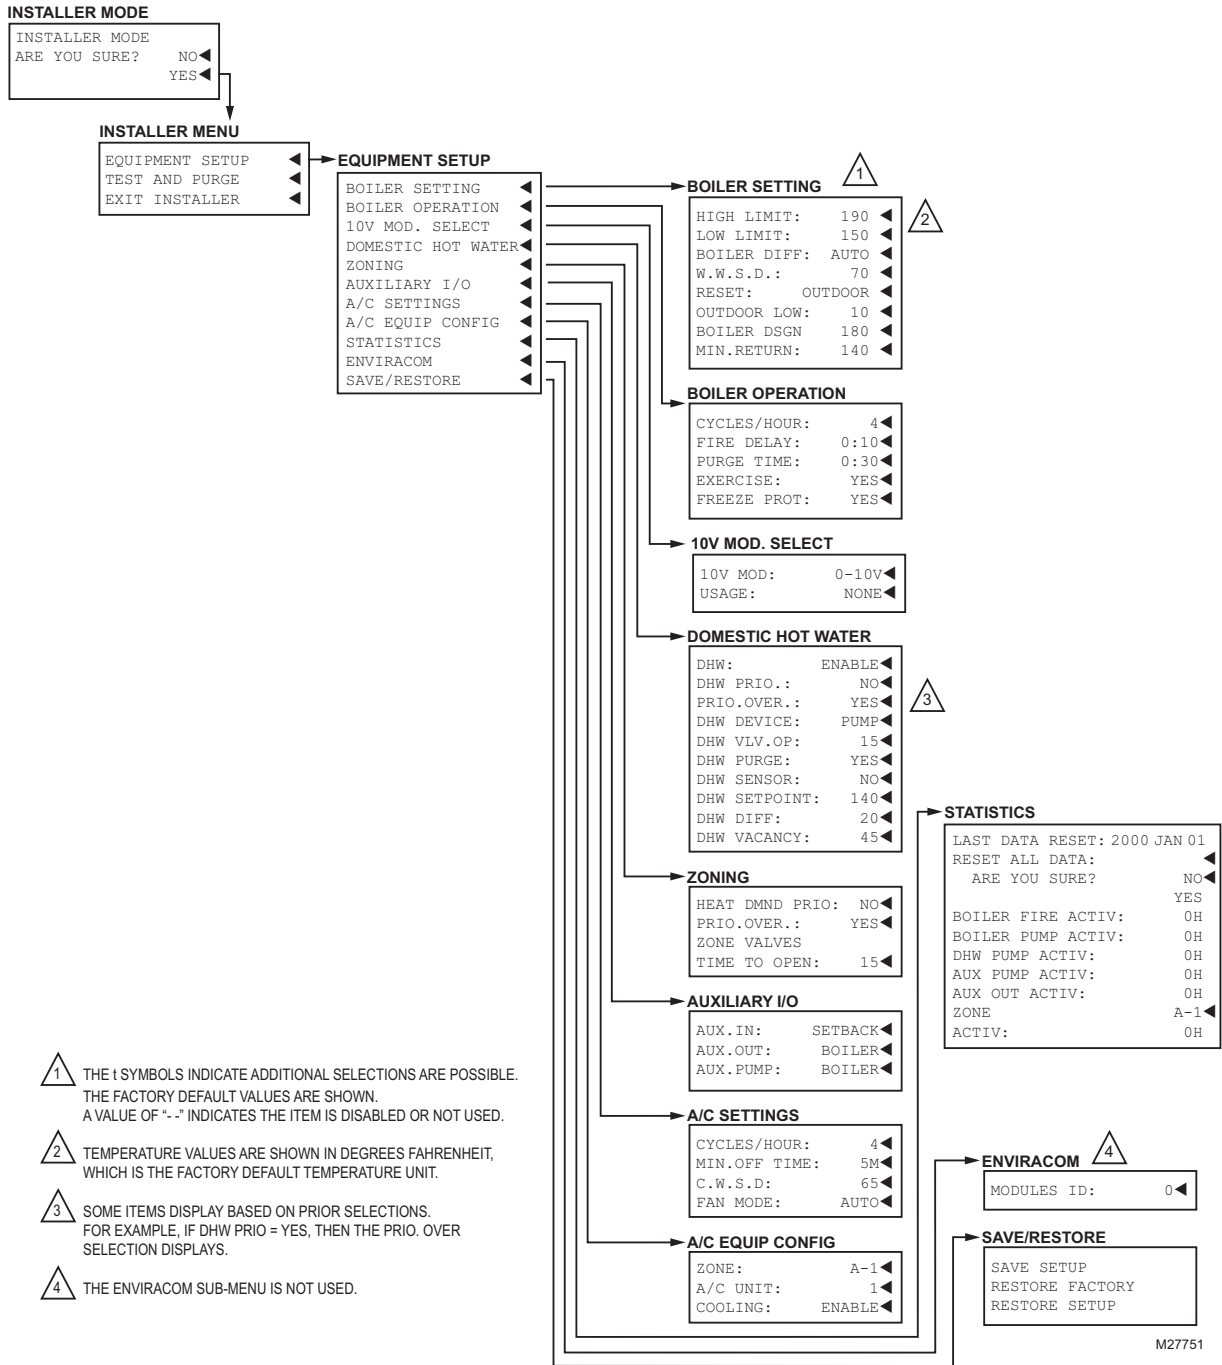
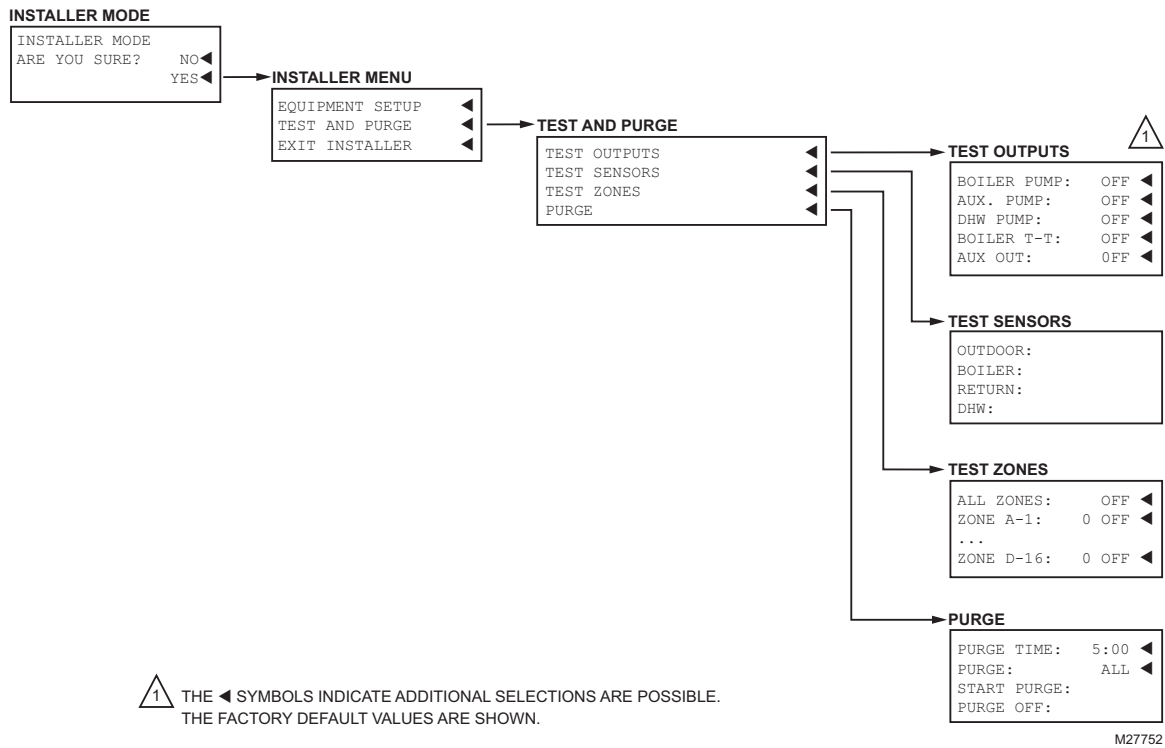

Fig. 25. Installer Menu Structure. – Equipment Setup.
Fig. 26. Installer Menu Structure. – Test and Purge.
- Installer Menu (see Fig. 25 on page 39)
To display the Installer Menu, go to the Home Page, press and hold the OK button for 3 seconds until the message **INSTALLER MODE – ARE YOU SURE?** displays. Select **YES** and press the OK button. Fig. 25 and Fig. 26 illustrate all possible Installer Menu selections.